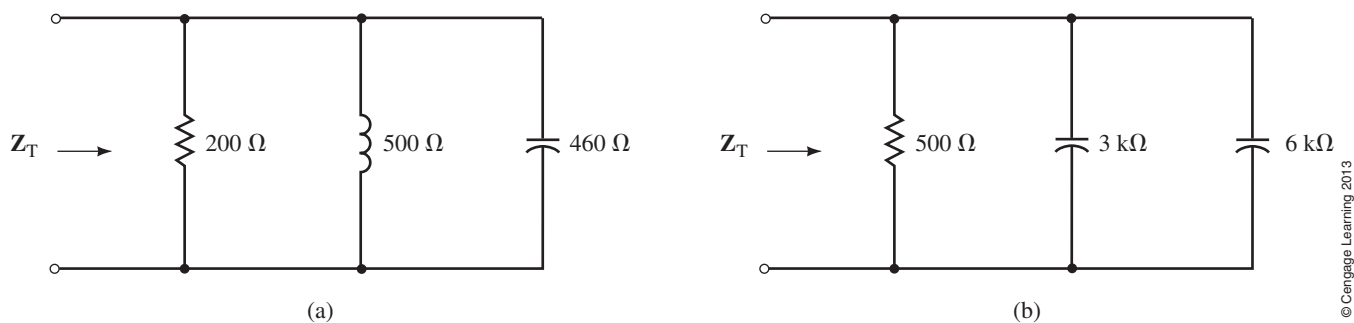

FIGURE 18-101
39. Solve for the current in each element of the networks in Figure 18-101 if the current applied to each network is $10 \text{ mA} \angle -30^\circ$.